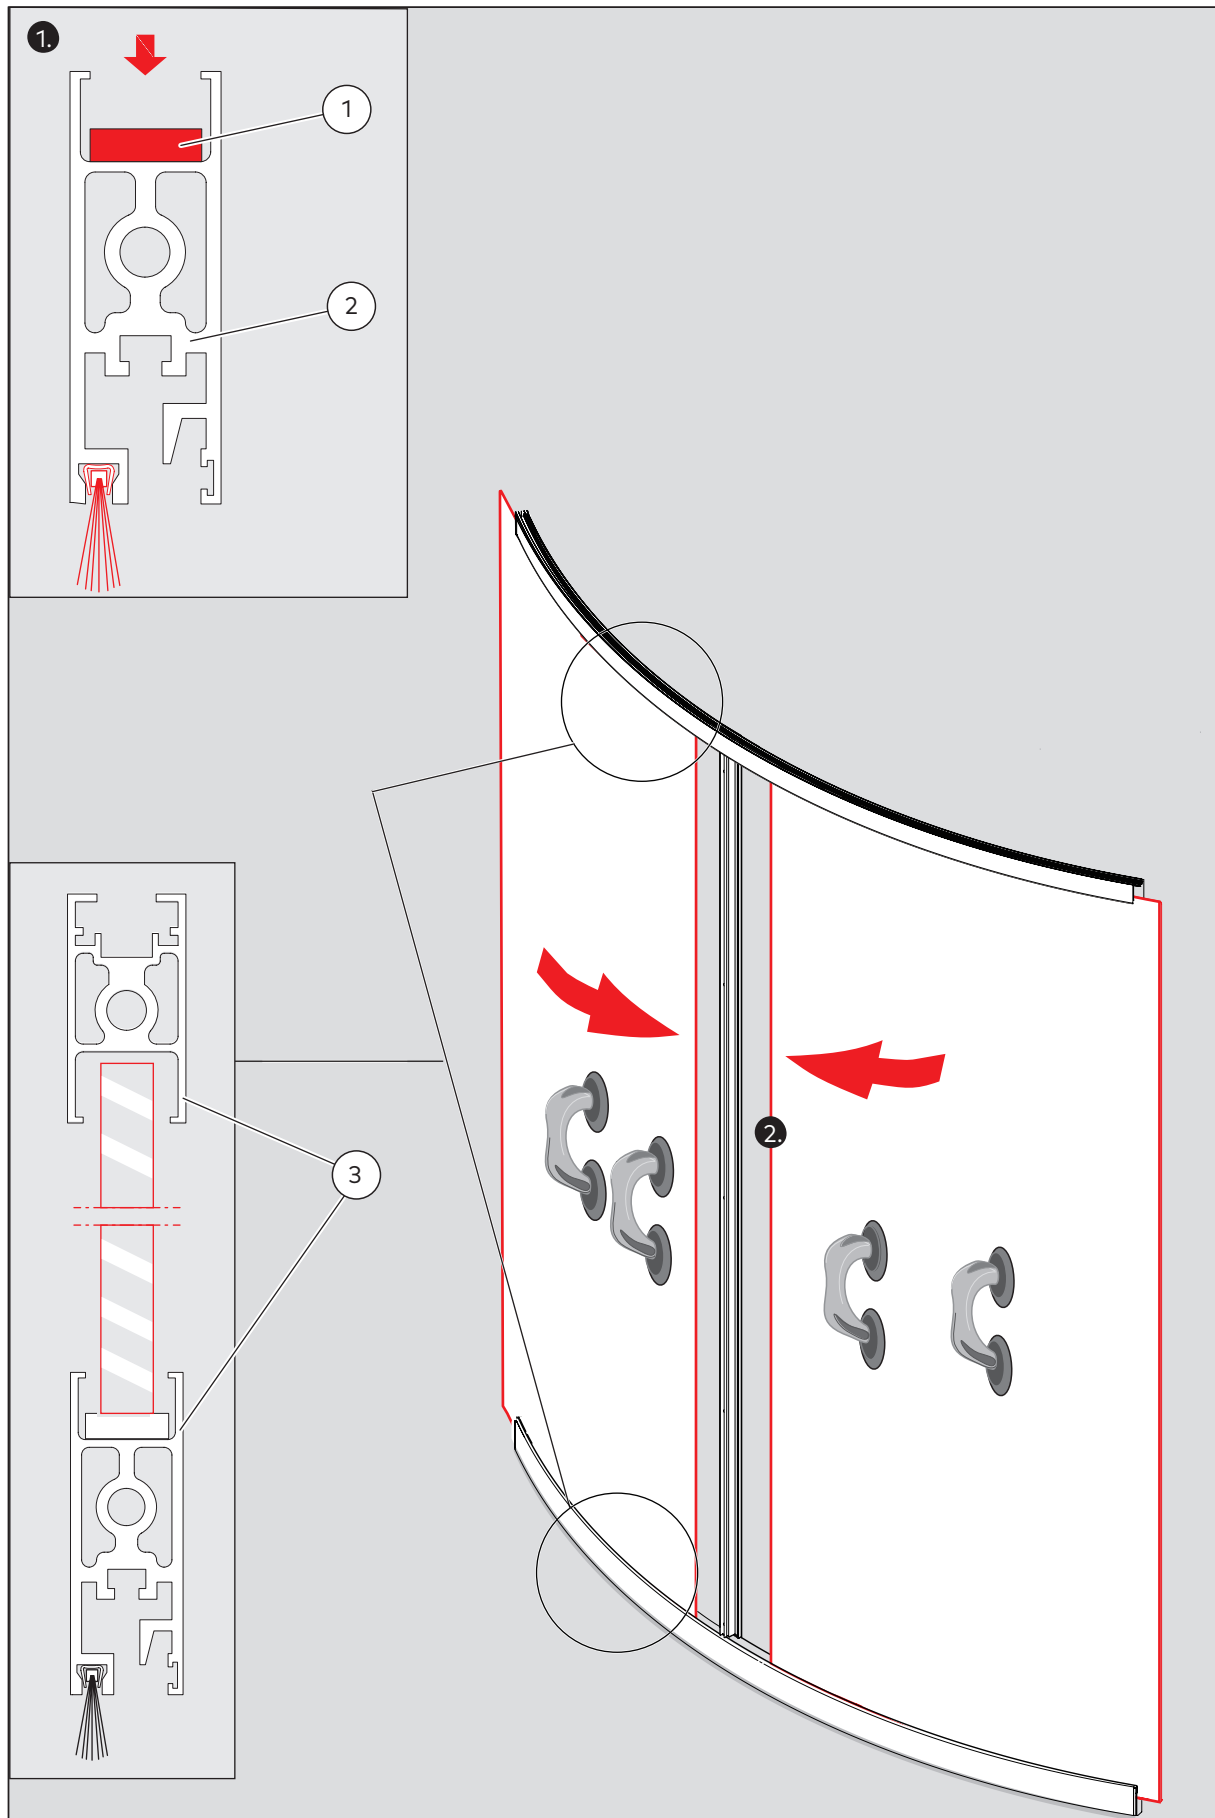

Fig. 66 Monting of the glass panels of the night shield
1. Place the plastic blocks (FigFig. 66/1) into the profile of the top frame (Fig. 66/2).
2. Slide the glass panels from the side into the profiles of the frame (Fig. 66/3).